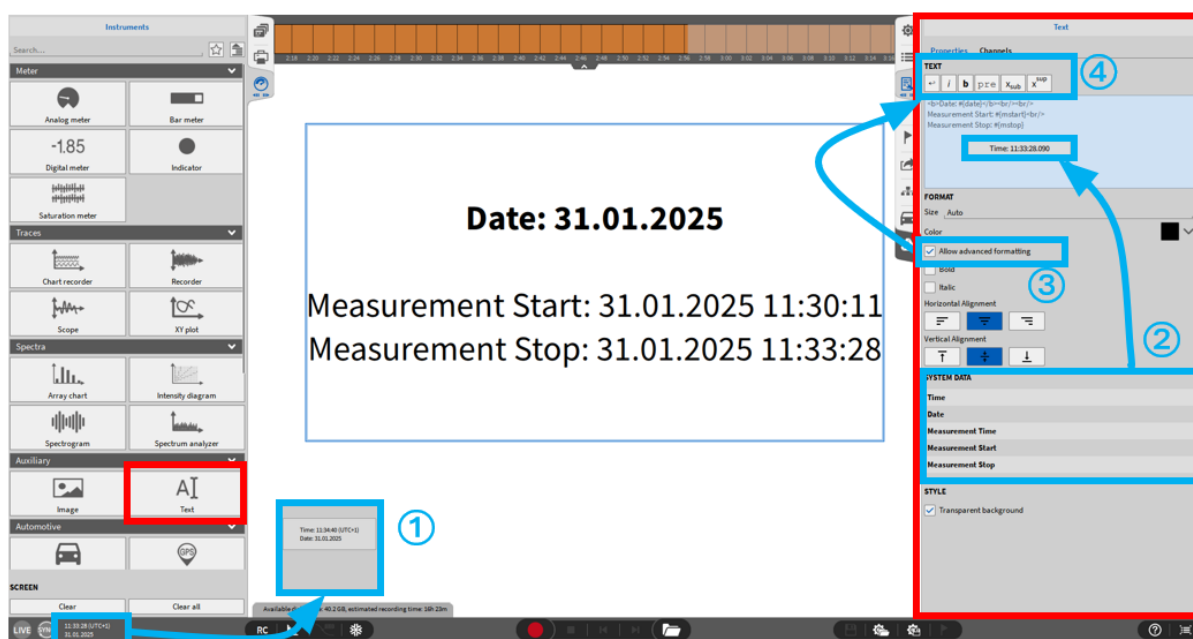

Fig. 8.100: Text instrument – overview
*Italic*. Furthermore, the horizontal and vertical alignment can be changed. The advanced text formatting options (see ④ in Fig. 8.100) for formatting only certain words or characters instead of the entire text must be activated via the checkbox (see ③ in Fig. 8.100).
1. The time and date display in the lower left corner can directly be dragged and dropped on the measurement screen (see ① in Fig. 8.100). A Textbox will be created automatically with the according time and date.
2. In the instrument properties the time, date and measurement time can again dragged and dropped into the text field (see ② in Fig. 8.100) or be added with a double click on the respective element.